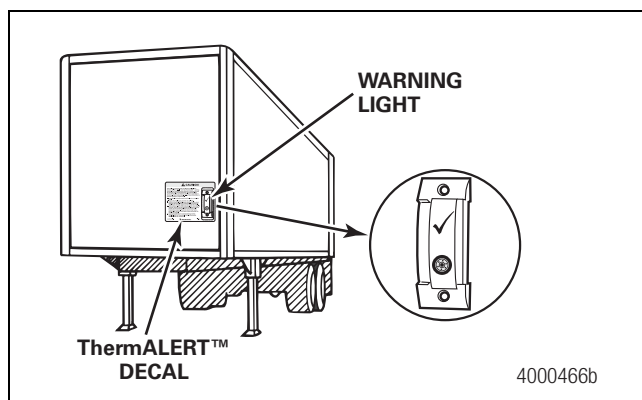

Figure 2.64
3. Mount the warning light vertically onto the roadside front of the trailer, approximately 30-inches (76 cm) from the bottom of the coupler and as close as possible to the outside of the trailer. The driver should be able to see the warning light from the roadside rear view mirror. Figure 2.64.